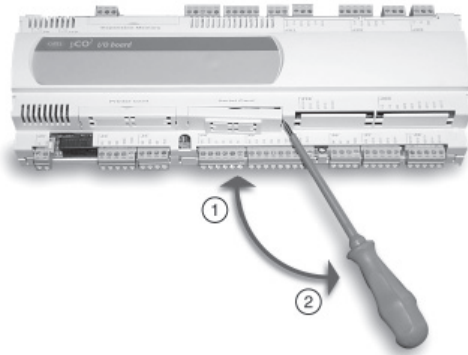

Fig. 1
1. Con un cacciavite, togliere lo sportellino "serial card" del controllore elettronico (vedi Fig. 1);
With reference to Figs. 1÷4, the connection to the pCO² is performed (without power supply) by following the procedure below:
1. Using a screwdriver, remove the "serial card" hatch from the electronic controller (see Fig. 1);